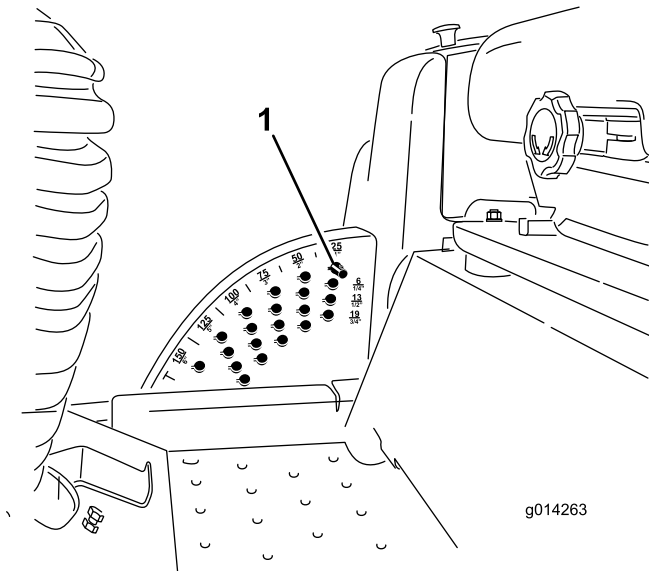

Figure 24
1. With the engine running, push back the deck-lift switch until the mower deck is fully raised, and **release the switch immediately** as shown in Figure 24.
2. Rotate the height-of-cut pin until the nub on it lines up with the slots in the holes in the height-of-cut bracket and remove it (Figure 24).
3. Select a hole in the height-of-cut bracket corresponding to the desired height of cut, insert the pin, and rotate it down to lock it in place (Figure 24).
**Note:** There are 4 rows of hole positions (Figure 24). The top row gives you the height of cut listed above the pin. The second row down gives you the height listed plus 6 mm (1/4 inch).